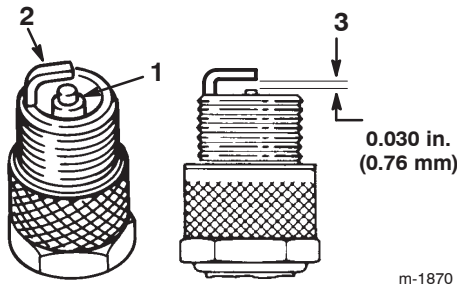

Figure 27
1. Look at the center of the spark plug (Fig. 27). If you see light brown or gray on the insulator, the engine is operating properly. A black coating on the insulator usually means that the air cleaner is dirty.
2. Check the gap between the center and side electrodes (Fig. 27) and bend the side electrode if the gap is not correct.